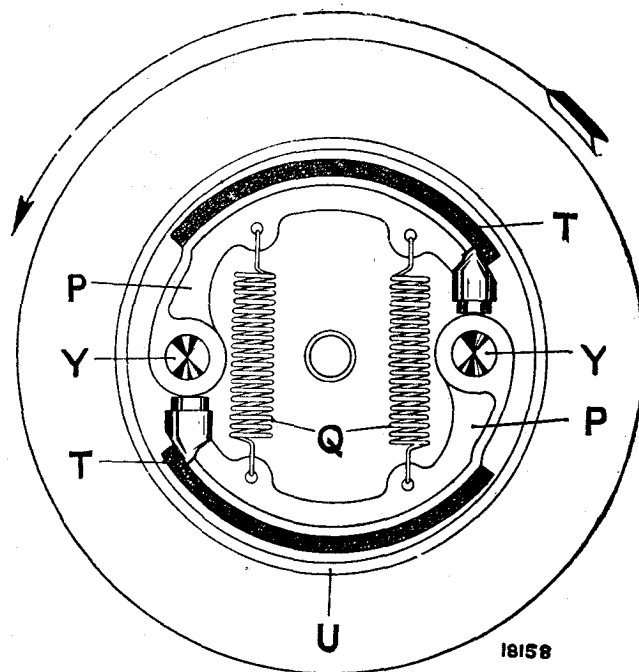

Fig. 1. Main Driving Clutch and Safety Clutch.
This clutch (Fig. 1) is of the automatic type and comes into operation as the engine speed increases. To delay the action of the centrifugal clutch shoes (P), springs (Q) are fitted which allow an engine speed of up to 500 r.p.m. without engagement. As the engine speed increases above this, the clutch shoes gradually take up the drive. Should an overload be put on the clutch, the tendency will be for the clutch to slip down the engine speed and then slip without stalling the engine. The clutch shoes are lined with bonded Ferodo linings (T) and to detach the shoes release the Allen screw in the clutch ring boss, remove circlip from clutch shaft and slide clutch ring (U) back. The shoes (P) can now be slid off the studs (Y). When replacing the shoes care must be taken to see that the hinged ends point towards the direction of running. It is essential to use the correct lining and method of riveting for this purpose.